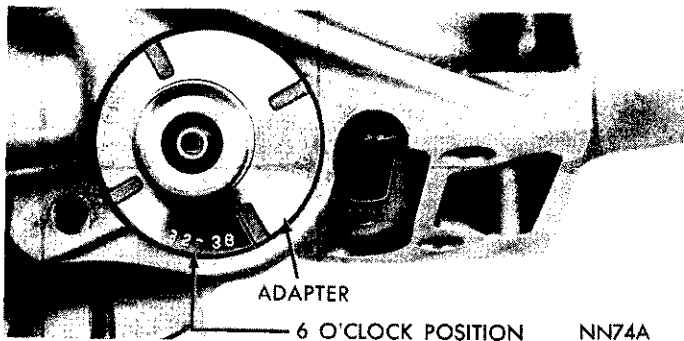
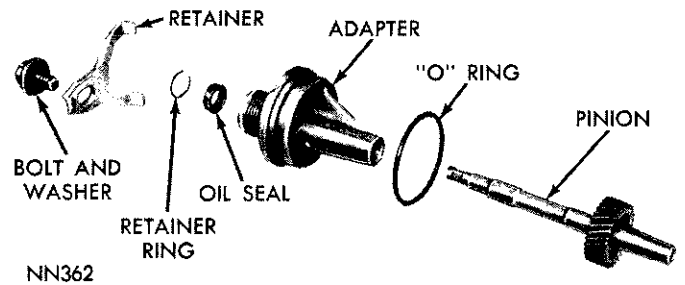
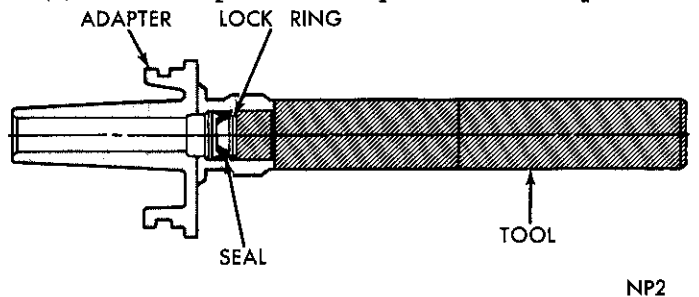

Fig. 18—Speedometer Pinion and Adapter—Installed (Retainer Removed for View)
Fig. 19—Speedometer Drive
Fig. 20—Installing Speedometer Pinion Seal
(1) Remove bolt and retainer securing speedometer pinion adapter in the extension housing (Fig. 18).
(2) With cable housing connected, carefully work adapter and pinion out of the extension housing.
(3) If transmission fluid is found in cable housing, replace seal in the adapter (Fig. 19). Start seal and retainer ring in the adapter, then push them into adapter with Tool C-4004 until tool bottoms (Fig. 20).
(4) Note number of gear teeth and install speedometer pinion gear into adapter (Fig. 19).
(5) Rotate the speedometer pinion gear and adapter assembly so that the number on the adapter, corresponding to the number of teeth on the gear, is in the 6 o’clock position as the assembly is installed (Fig. 18).
(6) Install retainer and bolt, with retainer tangs in adapter positioning slots. Tap adapter firmly into the extension housing and tighten retainer bolt to 100 inch-pounds.
sembly (Fig. 18). Drain approximately two quarts of fluid from the transmission.